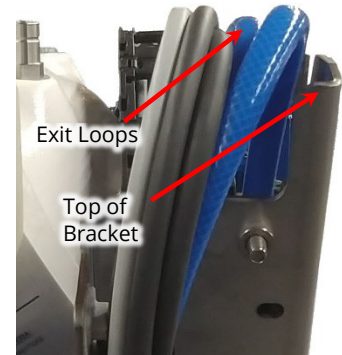

Figure 19: Seakeeper guide band hoses and cables
- a. **VERIFY** exit loops of IGUS chain are at least $\frac{3}{4}$ in. above back of sheet metal bracket (Fig. 19).